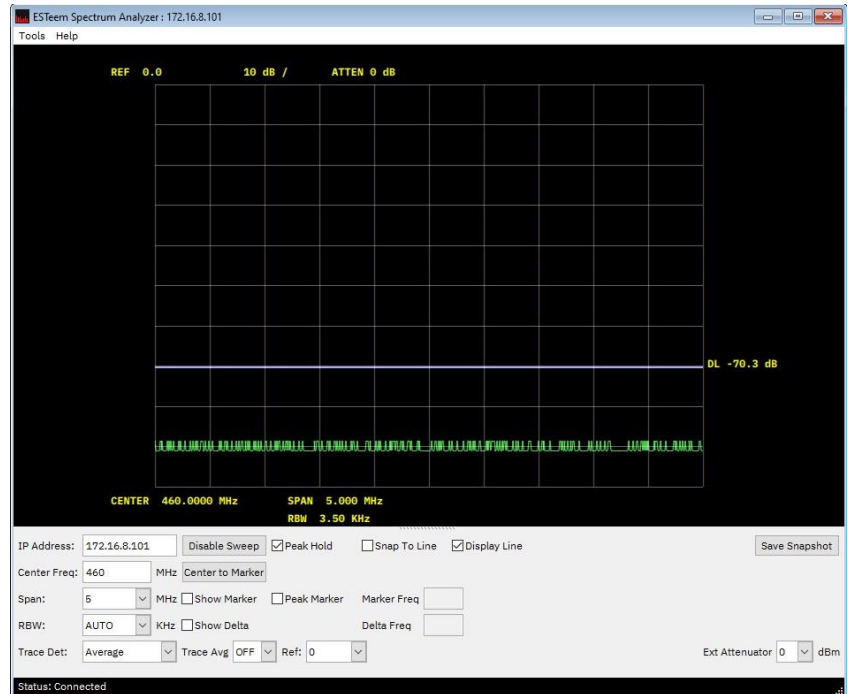

Figure 9: Spectrum Analyzer Utility
- **Span** – The span is the total frequency bandwidth shown on screen. For example, in Figure 9, the span is set to 5 MHz. The analyzer is broken up into a 10 x 10 grid. The total frequency span of 5 MHz would represent 500 KHz (5MHz/10) per division.
- **Display Line** – Displays horizontal line on screen with signal measurement (Figure 9).